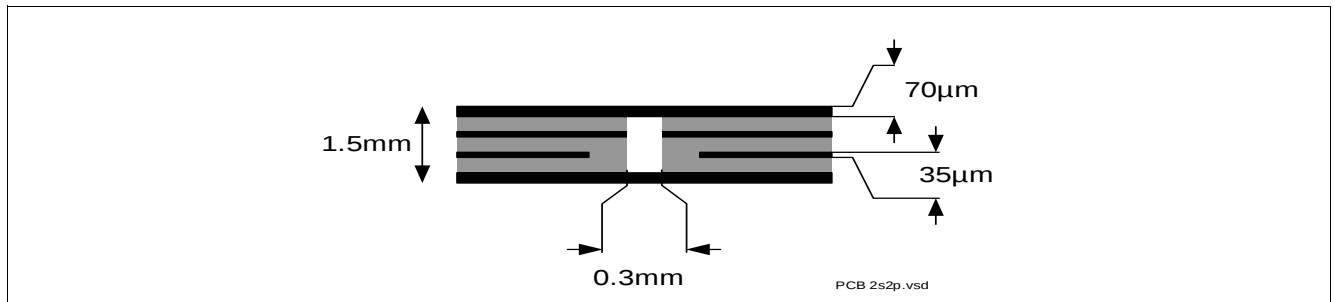

Figure 2 2s2p PCB Cross Section
2) Specified R_{thja} value is according to JEDEC JESD51-2,-5,-7 at natural convection on FR4 2s2p board; The product (chip + package) was simulated on a 76.4 x 114.3 x 1.5 mm board with 2 inner copper layers (2 x 70 μm Cu, 2 x 35 μm Cu). Where applicable, a thermal via array under the exposed pad contacts the first inner copper layer. Please refer to Figure 2.